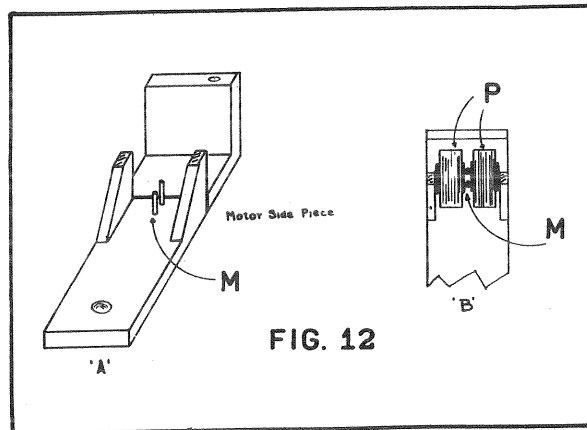

FIG. 12
2. Place the coils with armature in position on one of the motor side pieces, Figure 12. Place the other motor side pieces in place and screw the assembly together by means of the screw. In making this assembly make certain that the small pins "M", Figure 12, projecting from the inner side of the motor side piece, separate the two field coils as shown in "B", Figure 12.